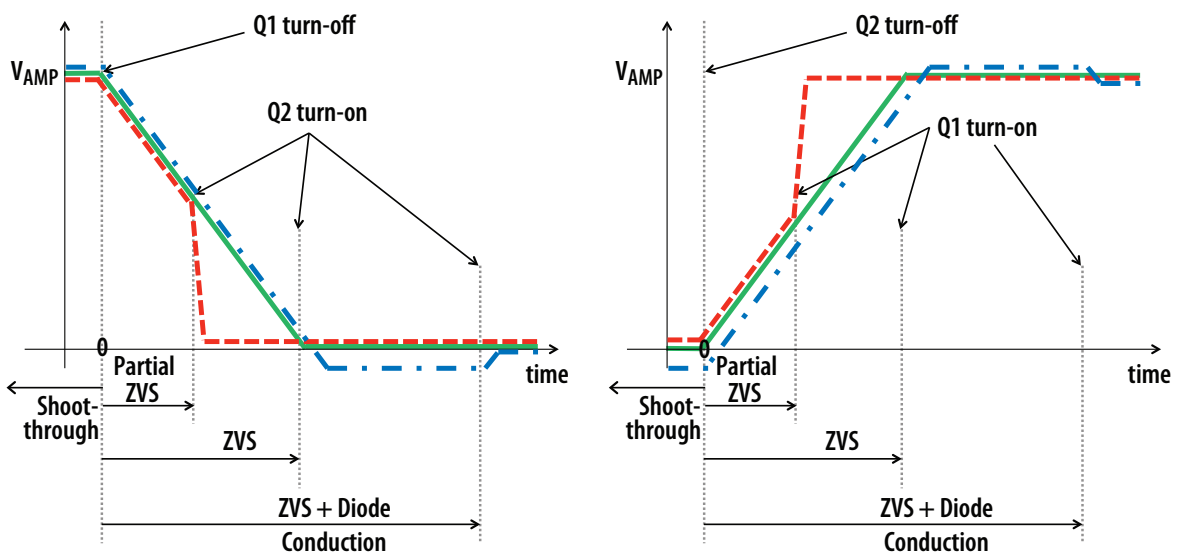

Figure 10: ZVS timing diagrams
Setting the correct time to establish ZVS transitions is critical to achieving high efficiency with the EPC9509 amplifier. This can be done by selecting the values for R71, R72, R77, and R78 or P71, P72, P77, and P78 respectively. This procedure is best performed using a potentiometer installed at the appropriate locations that is used to determine the fixed resistor values. The procedure is the same for both single-ended and differential mode of operation. The timing **MUST** initially be set **WITHOUT** the source coil connected to the amplifier. The timing diagrams are given in Figure 10 and should be referenced when following this procedure. Only perform these steps if changes have been made to the board as it is shipped preset. The steps are:
6. While observing the oscilloscope adjust the applicable potentiometers to so achieve the green waveform of Figure 10.